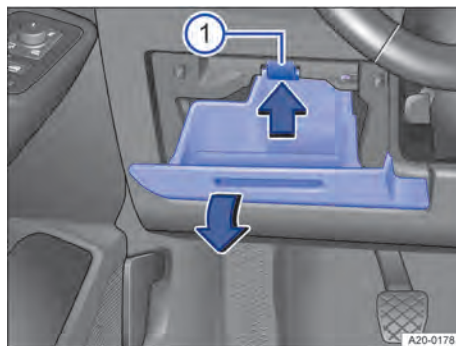

Fig. 181 Fuse box cover in the dash panel: left-hand drive vehicle, on the left-hand side of the steering wheel.
1. Open the storage compartment and empty it if necessary → Fig. 181.
2. Push the retaining lug upwards in the direction of the arrow and at the same time open the stowage compartment further and remove in the direction of the arrow until you can access the fuse carrier → Fig. 181 ①.